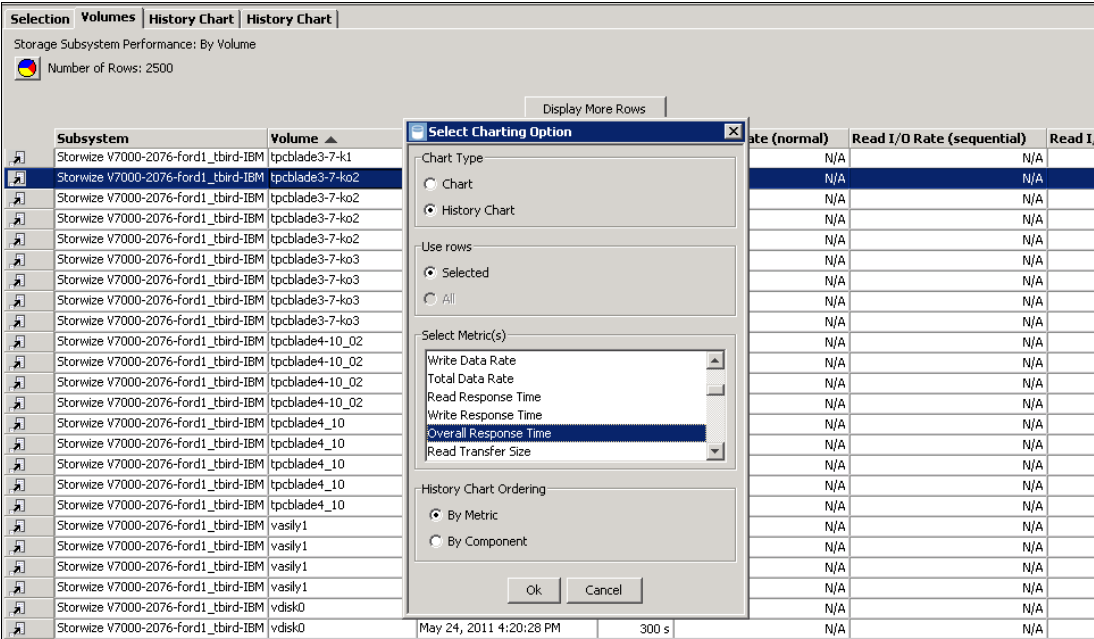

Figure 13-110 Volume selection for the Storwize V7000 performance report
7. In the Select Charting Option window (see Figure 13-110), scroll down and select **Overall Response Time**. Then, click **OK** to produce the chart.